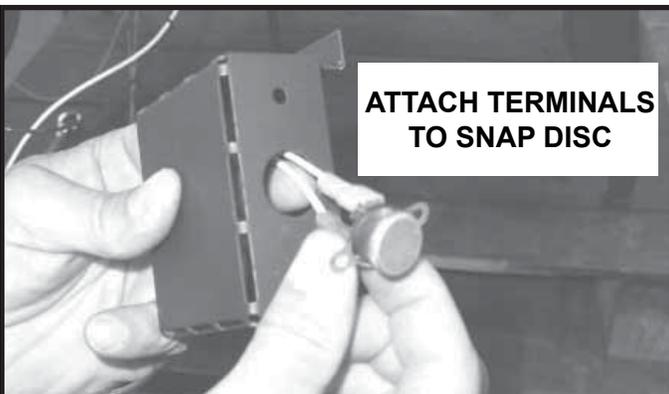

Figure 24
7. Route the white wires through the snap disc bracket and attach the wire terminals to the snap disc Pull flush in the bracket. See Figure 24.